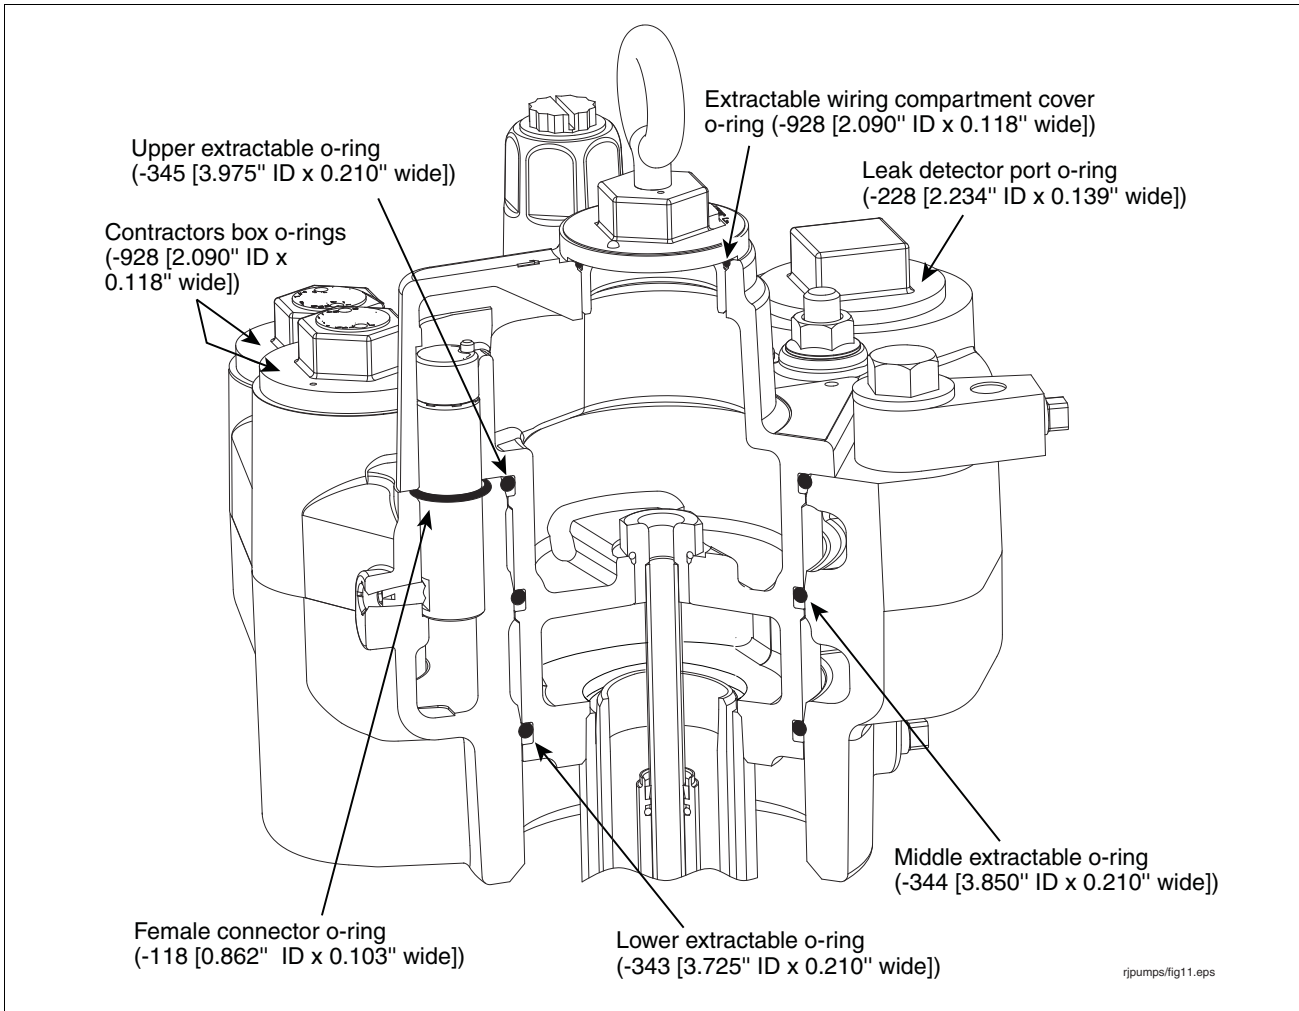

Figure 42. Locating Packer And Manifold O-Rings
9. Get the three extractable o-ring seals (3.975" ID x 0.210" wide [upper], 3.850" ID x 0.210" wide [middle], and 3.725" x 0.210" wide [lower]) from the hardware/seal kit. The three o-rings are very close in size so take extra care to distinguish each one before replacing them in the extractable. Lubricate each o-ring with petroleum jelly and then install them in their assigned grooves in the extractable (see Figure 42).
10. Remove the manifold's female connector's o-ring (see Figure 42). Get a 0.862" ID x 0.103" wide o-ring from the kit and lubricate it with petroleum jelly. Slide the o-ring over the female connector and push it down into its groove.
- Get the three extractable o-ring seals (3.975" ID x 0.210" wide [upper], 3.850" ID x 0.210" wide [middle], and 3.725" x 0.210" wide [lower]) from the hardware/seal kit. The three o-rings are very close in size so take extra care to distinguish each one before replacing them in the extractable. Lubricate each o-ring with petroleum jelly and then install them in their assigned grooves in the extractable - see Figure 42 on page 48.
- Remove the manifold's female connector's o-ring - see Figure 42 on page 48. Get a 0.862" ID x 0.103" wide o-ring from the kit and lubricate it with petroleum jelly. Slide the o-ring over the female connector and push it down into its groove.